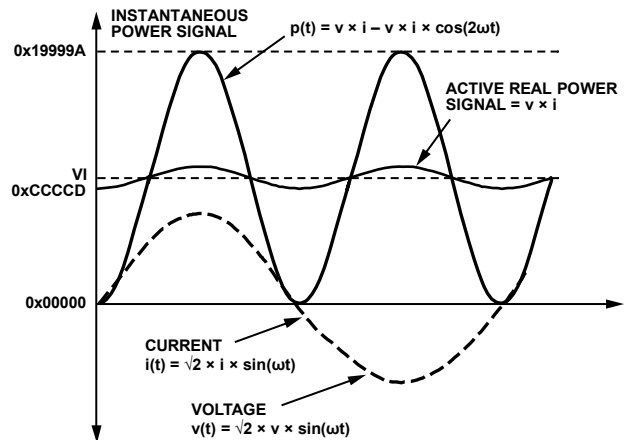

Figure 50. Active Power Calculation
Note that the active power is equal to the dc component of the instantaneous power signal $p(t)$ in Equation 11, that is, VI . This is the relationship used to calculate active power in the ADE7566/ADE7569. The instantaneous power signal $p(t)$ is generated by multiplying the current and voltage signals. The dc component of the instantaneous power signal is then extracted by LPF2 (low-pass filter) to obtain the active power information. This process is illustrated in Figure 50.
The ADE7566/ADE7569 also incorporate an active power offset register (WATTOS[15:0]). It is a signed, twos complement, 16-bit register that can be used to remove offsets in the active power calculation (see Figure 50). An offset can exist in the power calculation due to crosstalk between channels on the PCB or in the IC itself. The offset calibration allows the contents of the
As mentioned in the Active Energy Calculation section, the discrete time sample period (T) for the accumulation register is 1.22 μs (5/CLKIN). With full-scale sinusoidal signals on the analog inputs and the WGAIN register set to 0x000, the average word value from each LPF2 is 0xCCCCD (see Figure 50). The maximum positive value that can be stored in the internal 49-bit register is 2⁴⁸ (or 0xFFFF,FFFF,FFF) before it overflows. The integration time under these conditions when WDIV = 0 is calculated in the following equation: